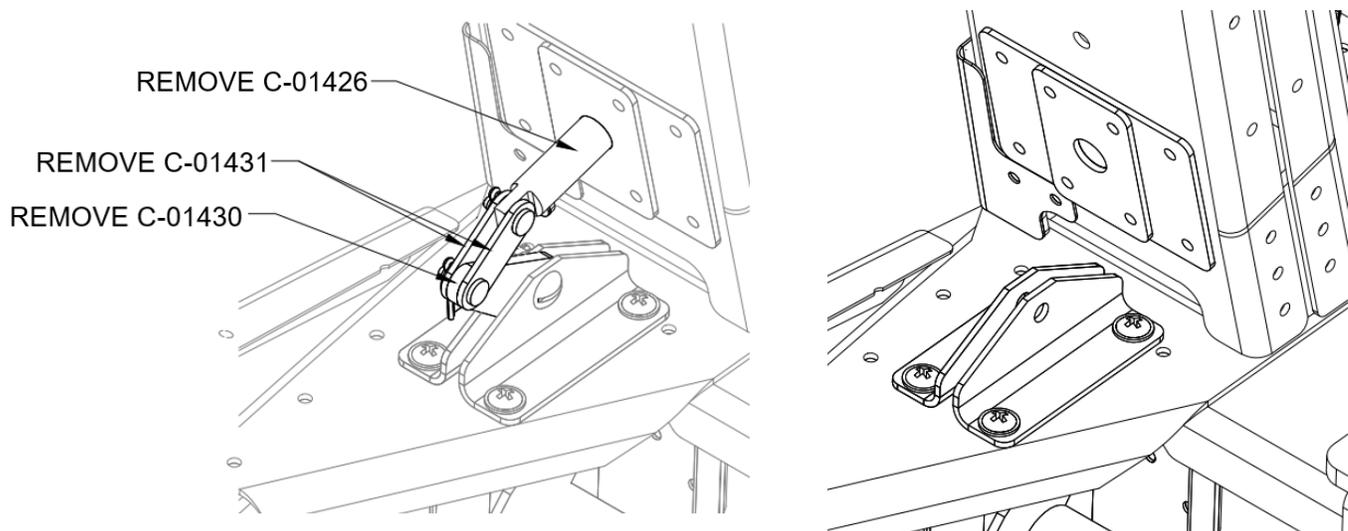

FIGURE 6: PIN, LINKS, AND BELLCRANK REMOVAL
Step 6: Remove Canopy Pin, Links and Latch Bellcrank. See Figure 6.